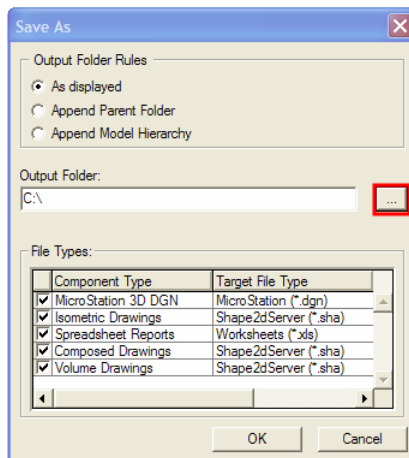

Figure 18: Save As Dialog Box
2. Use the **Browse** button on the **Save As** dialog box to navigate to the local machine's C: drive, as shown in Figure 18.